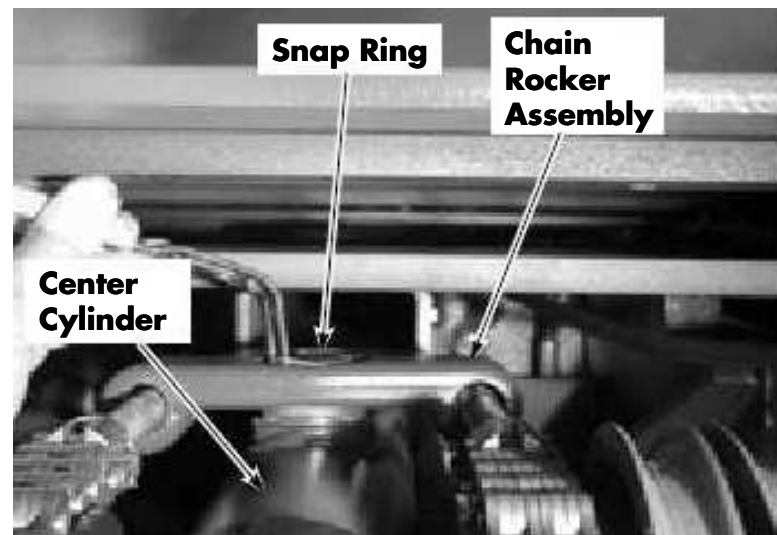

Figure 7-176. Center Cylinder, Top View
7. Use 90° snap ring pliers to remove snap ring holding chain rocker assembly to center cylinder. See Figure 7-176.
5. Install rocker assembly, its associated hardware, and chain on center cylinder. See Figure 7-176.